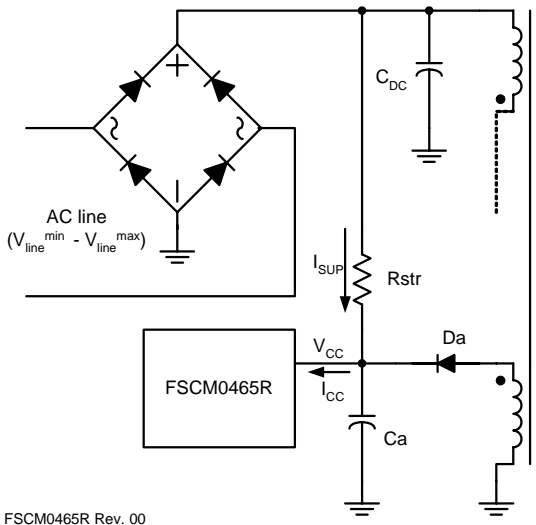
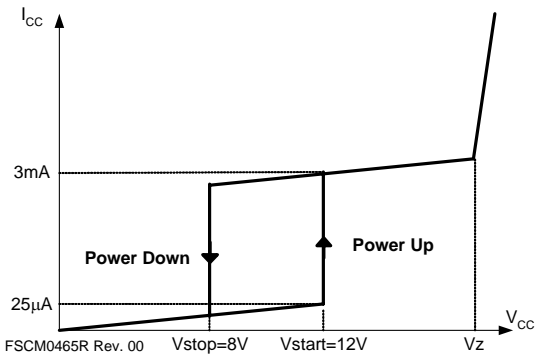

Figure 16. Startup Circuit
Figure 17. Relation Between Operating Supply Current and V_{CC} Voltage
1. Startup: Figure 16 shows the typical startup circuit and transformer auxiliary winding for the FSCM0465R application. Before the FSCM0465R begins switching, it consumes only startup current (typically 20μA) and the current supplied from the DC link supply current consumed by the FPS (I_{CC}) and charges the external capacitor (C_a) connected to the V_{CC} pin. When V_{CC} reaches start voltage of 12V (V_{START}), the FSCM0465R begins switching and the current consumed by the FSCM0465R increases to 2.5mA. Then the FSCM0465R continues its normal switching operation and the power required for this device is supplied from the transformer auxiliary winding, unless V_{CC} drops below the stop voltage of 8V (V_{STOP}). To guarantee the stable operation of the control IC, V_{CC} has under-voltage lockout (UVLO) with 4V hysteresis. Figure 17 shows the relationship between the current consumed by the FPS (I_{CC}) and the supply voltage (V_{CC}).